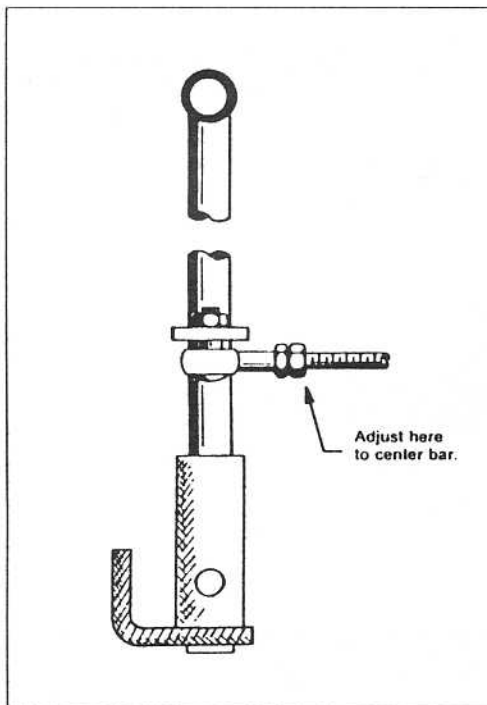

Figure 3-4
2. Loosen jam nuts from both ends and then adjust rod to obtain correct T-Bar position. Maintain at least 1/2 inch (12.7 mm) of control rod thread into each rod end. (See figure 3-4)